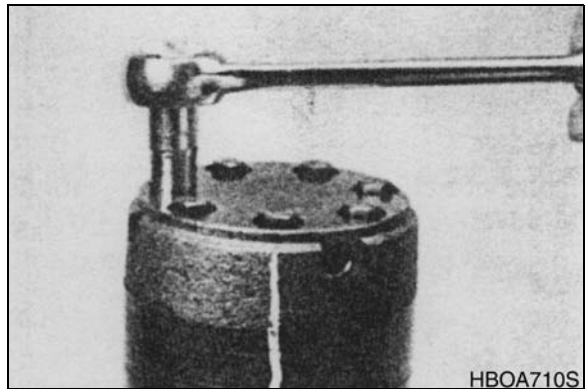
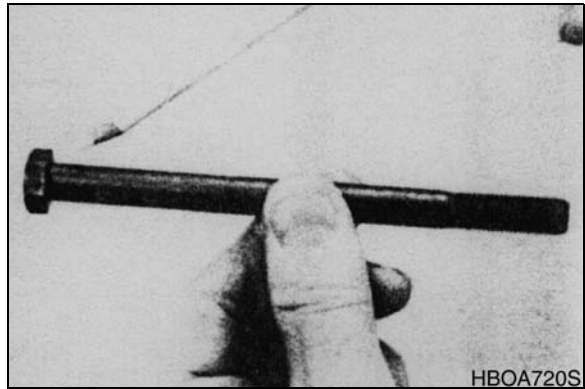

Figure 7
Figure 8
3. Remove the five or seven special ring head bolts (1, 1A, 1B, or 1C) using an appropriate 1/2 or 9/16 inch size socket. See Figure 7. Inspect bolts for damaged threads, or sealing rings, under the bolt head. Replace damaged bolts. See Figure 8.